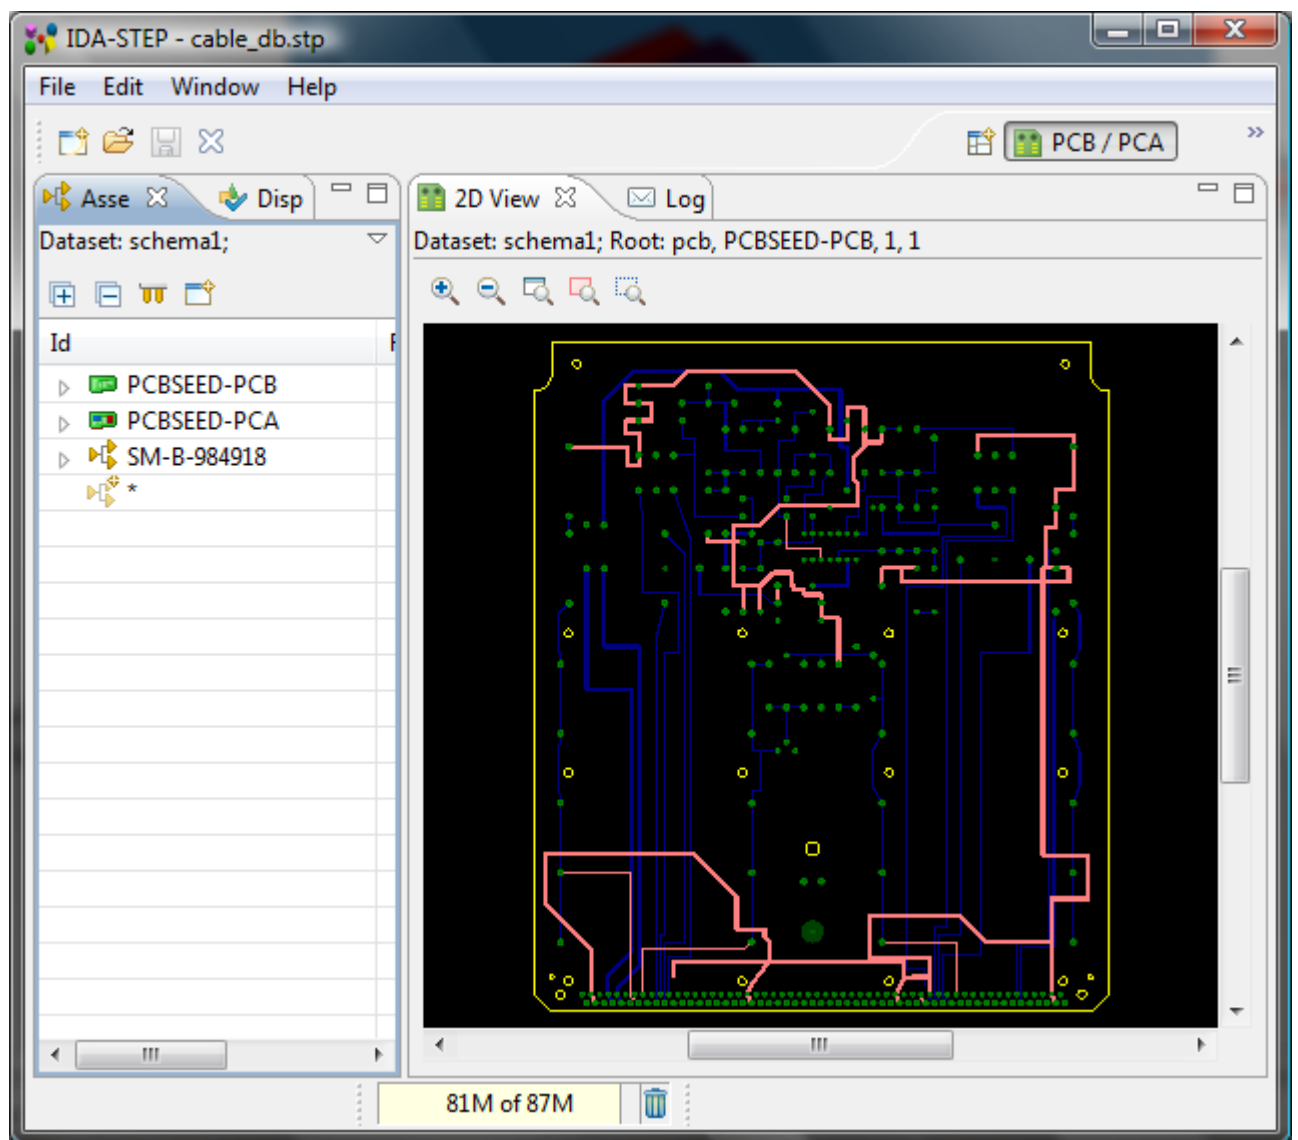

Figure 1. Opened STEP file with PCA and PCB design data and 2D view
- A particular PCA/PCB design has to be opened or imported in IDA-STEP (see Figure 1).